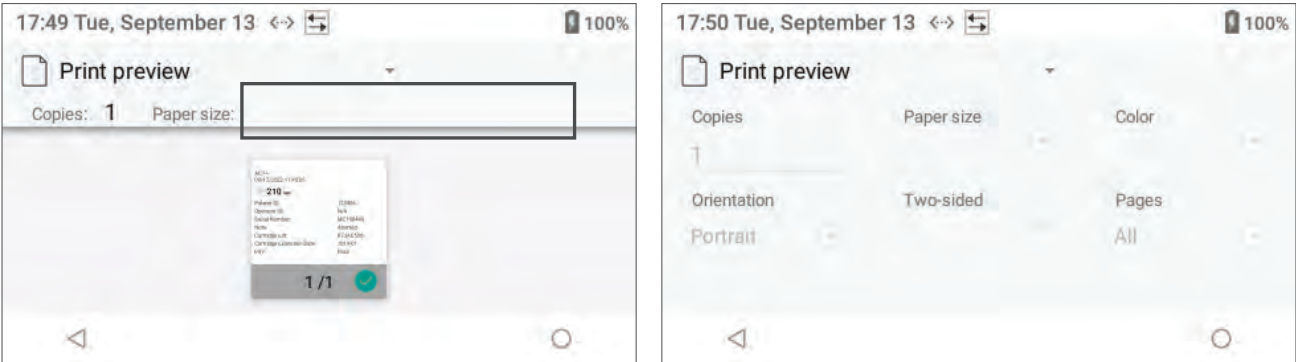

Figure 85: Change Printer Settings
- 1 Select the desired printer and then click on the blank area next to **Paper size** to display printing layout (Figure 85).